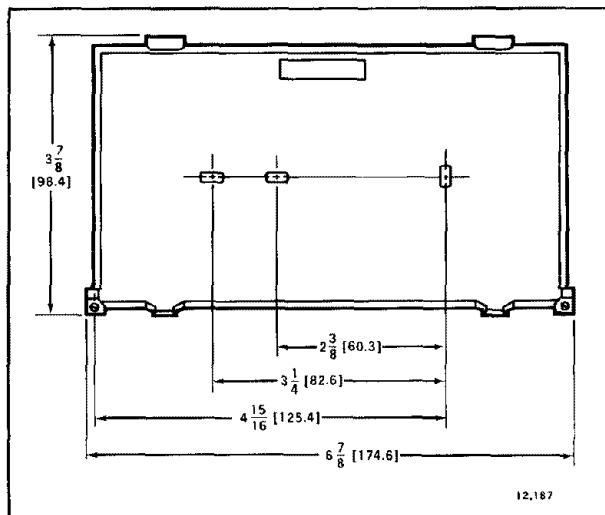

FIG. 1—T8600, T8601, T8602, T8603 WALLPLATE MOUNTING DIMENSIONS IN IN. [MM IN BRACKETS].
**DIMENSIONS:** Thermostat (mounted on wallplate)—7 in. [178 mm] long, 4-1/16 in. [103 mm] high, 1-3/4 in. [44 mm] deep. See Fig. 1 for wallplate dimensions.